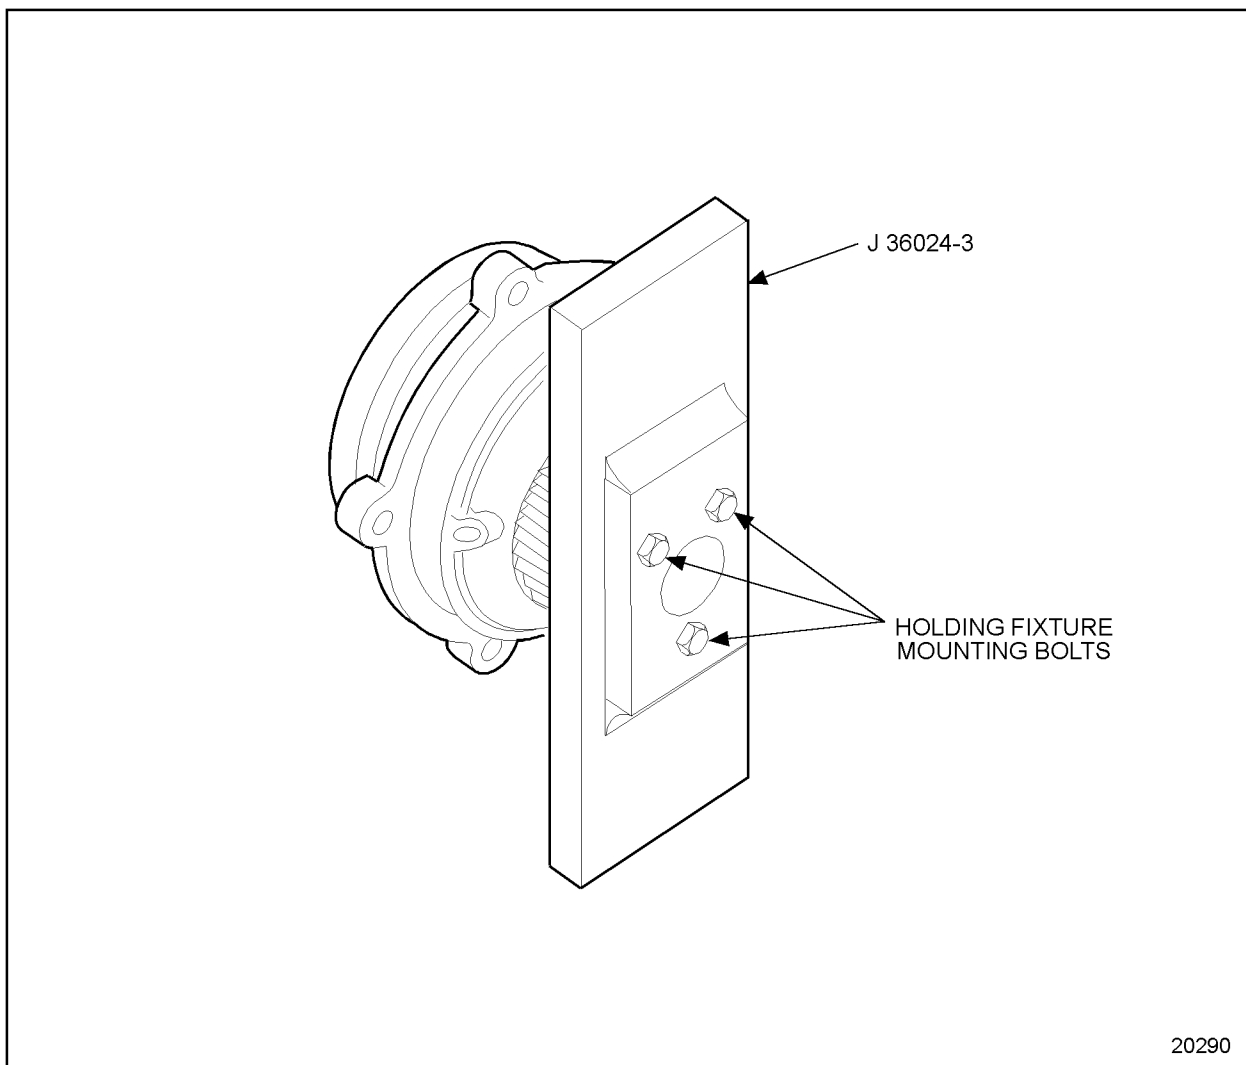

Figure 1-388 Holding Fixture
1. Attach the accessory drive gear to the holding fixture, J 36024-3 part of J 36024-D, using the three bolts provided. See Figure 1-388.